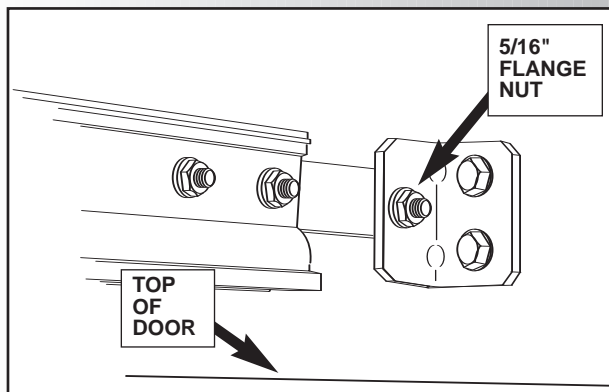

Fig. 2-8
- Fasten with nut [9], finger tight only. **Fig. 2-8.**